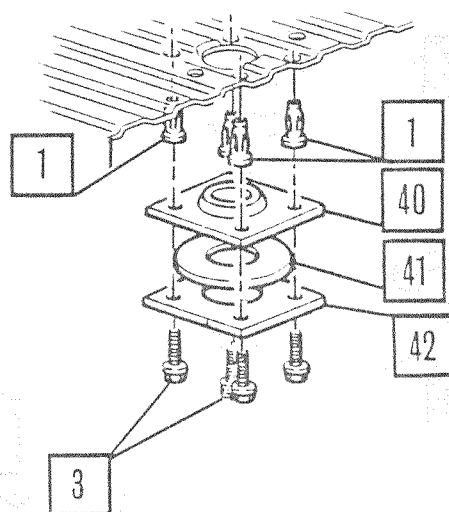

Figure 12.
40. From underside of cargo box, install jacknuts in drilled holes and install exhaust retainer and gaskets (Figure 12.). Tighten bolts to 22-27 lb.-in. (2.5-3.0 Nm).